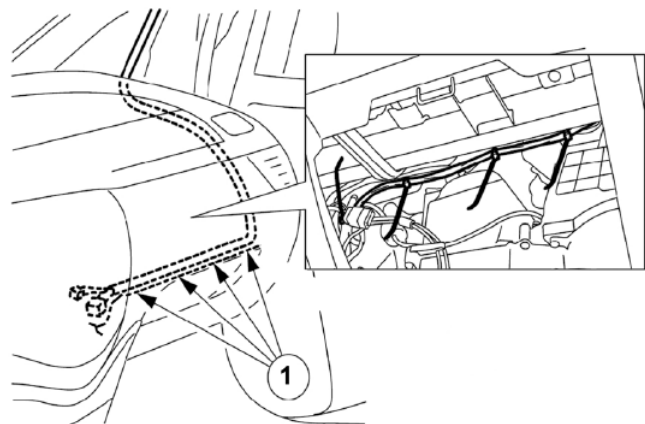

FIGURE 66
- 14.) BEING CAREFUL OF SHARP METAL, ROUTE THE REMAINING HARNESS THROUGH THE BOTTOM OF THE A-PILLAR, THROUGH THE GLOVE BOX OPENING AND INTO THE RADIO OPENING. SECURE THE HARNESS USING FOUR TIE WRAPS (1) IN THE LOCATIONS INDICATED. (SEE FIGURE 66)